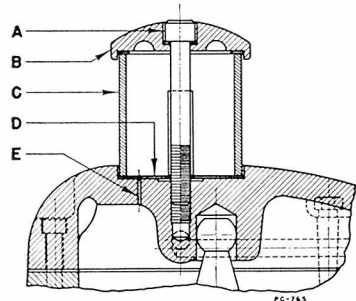

Figure 37
2. Remove screw "A", cap "B" and glass "C" (Figure 37).